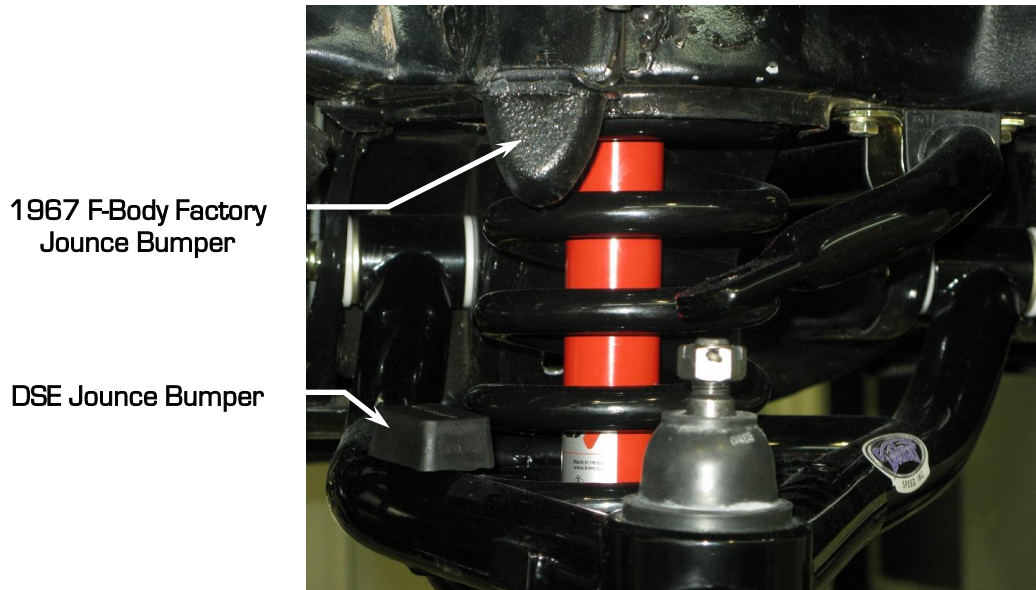

Figure 2 - 1967 Camaro Jounce Bumper
- 3) Install the provided bump stops in the front or the rear bump stop weld tube in the DSE lower control arms based on your original configuration. The bump stop shelf will be either located on the front side of the subframe shock tower or the rear side. **(NOTE:** On a factory 1967 Camaro front subframe there was also a frame mount jounce pad as shown in Figure 2 on the next page).